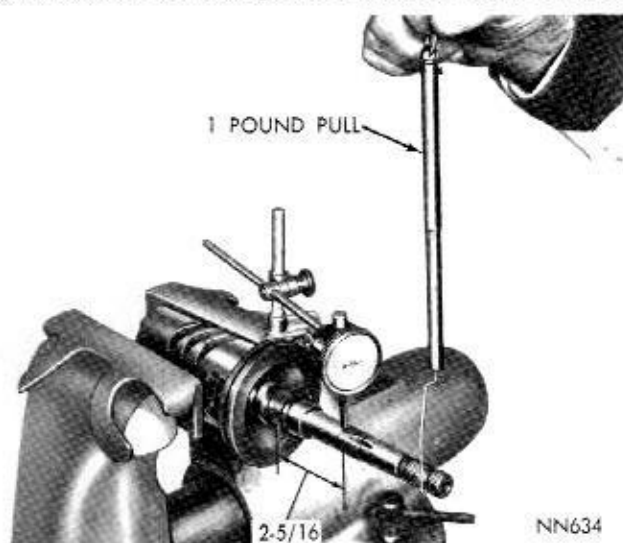

Fig. 18—Checking Worm Shaft Side Play
(26) Test for excessive side play with the piston held firmly in a vise with the rack teeth up, and the worm in its approximate center of travel. The vertical side play measured at a point 2-5/16 from the piston flange should not exceed .008 inch when the end of the worm is lifted with a force of 1 pound (Fig. 18).
(27) Inspect condition of rubber sealing ring located under cast iron ring and replace if necessary. Install cast iron piston ring as follows: